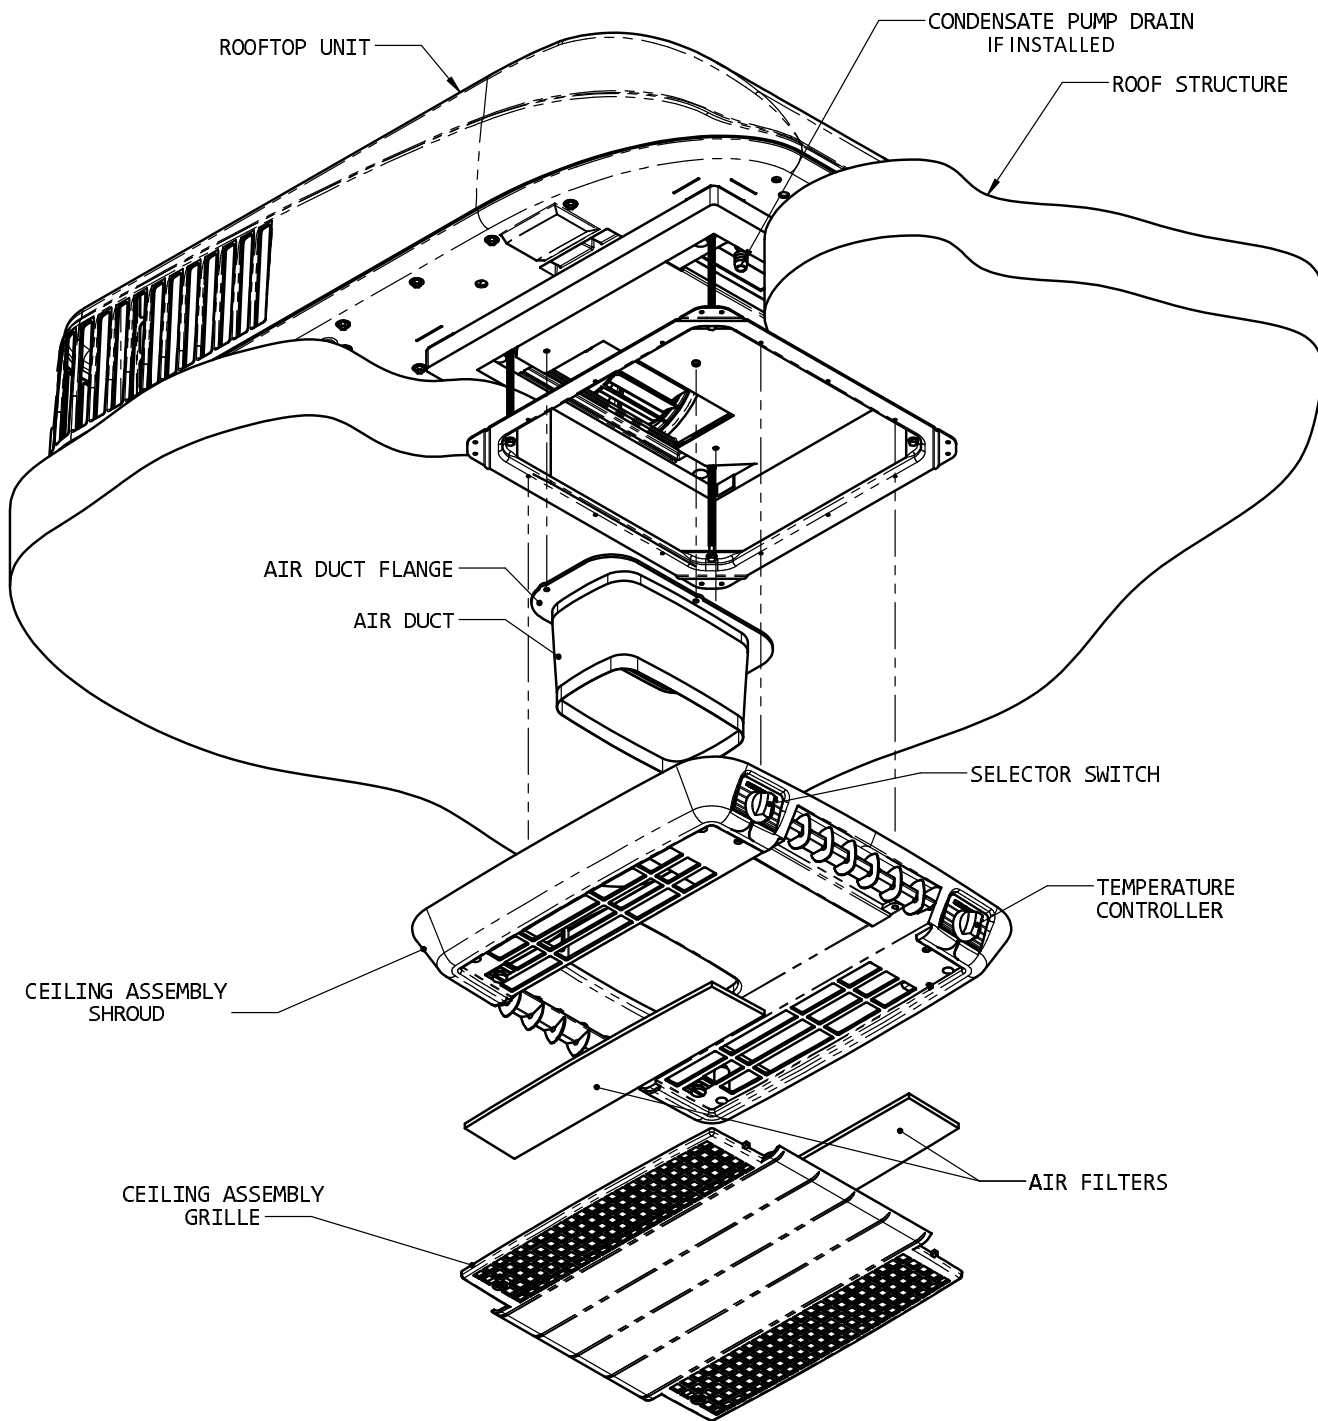

FIGURE 9
- D. Fold and break off the three tabs around the inner opening of the duct collar, then fasten the duct collar to the basepan of the air conditioner with three (3) screws -(See Figure 9).
- I. Raise the ceiling assembly and secure to the mounting frame with 4 provided shoulder screw/spring assemblies. The front two screws should pass through the clearance holes in the metal control box shield (See Figure 9).